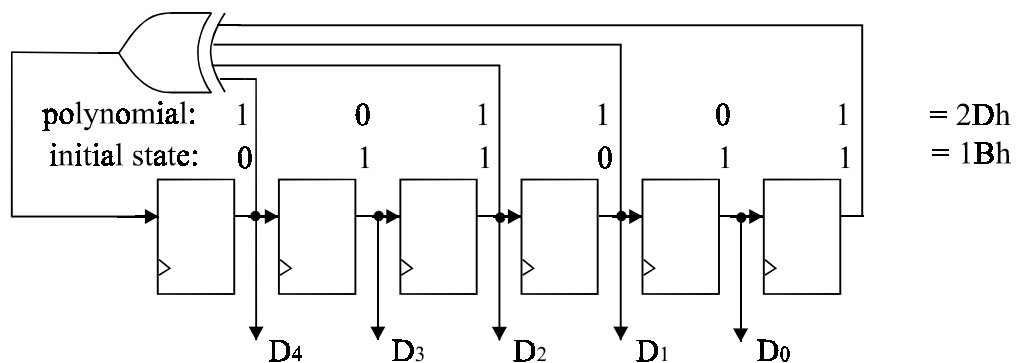

Figure 6 Generator LFSR
Turbo Tester BIST emulators allow the user to specify the feedback polynomials, initial states and bitwidths of the LFSRs. Figure 6 explains these concepts on a generator LFSR example. The generator has an initial value of 011011 in the register and its feedback polynomial is 101101.
*In the example, the LFSR bitwidth (6 bits) is greater than the number of circuit inputs (5 inputs). In that case the circuit inputs are connected to the side of more significant bits of the generator LFSR (See Figure 6). Generator bitwidth has to be greater or equal to the number of circuit inputs.*